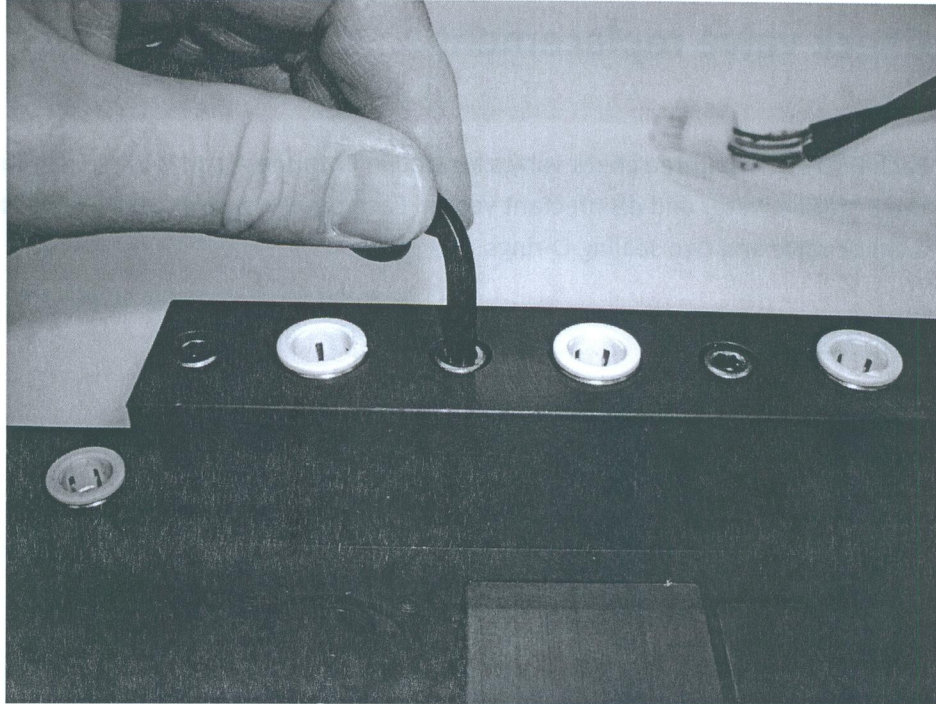

Fig 18
- With the main module on lying on a table, remove the four check valve block retaining screws with a ___Allen wrench. Refer to figure 18